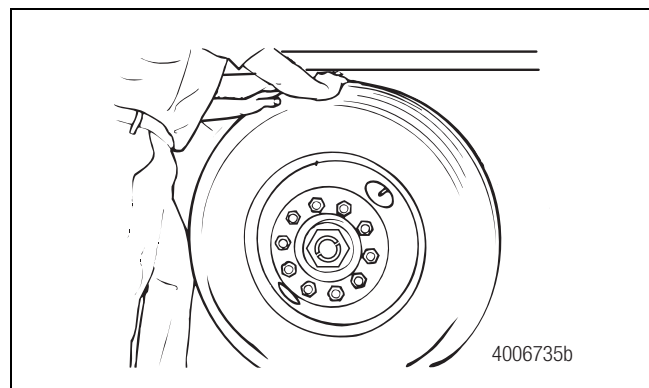

Figure 1
4. Grasp the tire and wheel-end assembly at the 12 and six o'clock positions. Check for vertical and horizontal movement. With your hands, apply approximately 50 lb (23 kg) of force to the assembly. You should not feel or see any looseness or movement. Figure 1.
8. Grasp the tire and wheel-end assembly at the 12 and six o'clock positions. Check for vertical and horizontal movement. With your hands, apply approximately 50 lb (23 kg) of force to the assembly. You should not feel or see any looseness or movement. Figure 1.